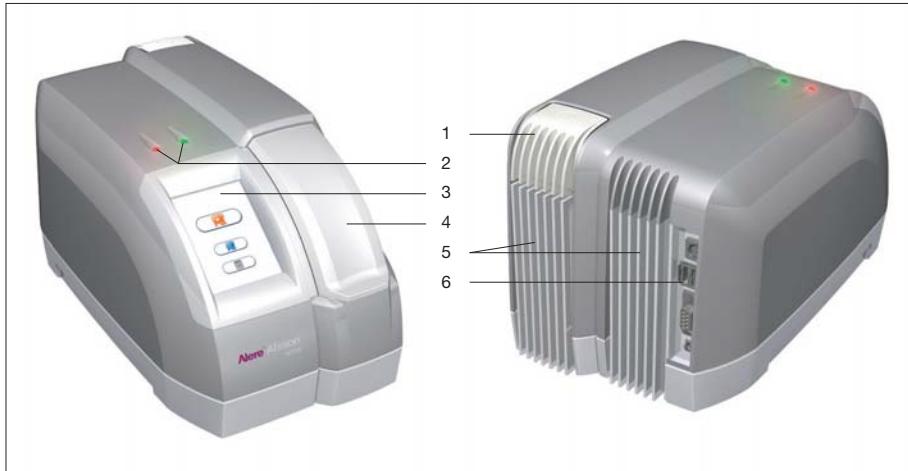

Figure 1
Figure 1 shows the main exterior parts of the Alere Afinion™ AS100 Analyzer.
- 1  Power on the Analyzer by pressing the ON/OFF button (Figure 1). An automatic start-up procedure will be initiated. Please wait.
-  Power off the Analyzer by pressing the ON/OFF button (Figure 1). The Analyzer should be powered off after the end of a working day.